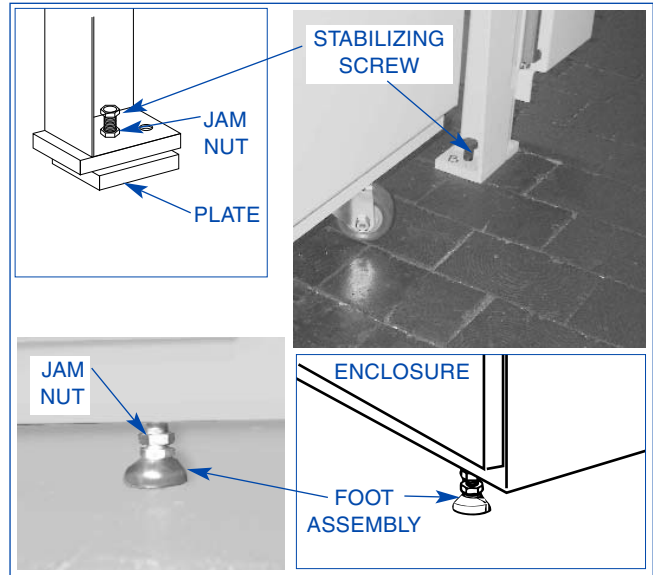

FIGURE 1-4, Stabilize Machine
8. Stabilize Machine by adjusting Stabilizing Screw in Machine Base (see Figure 1-4). Screw out two (2) Foot Assemblies on Electrical Control Enclosure Support Legs until they contact floor; then turn each Foot 1/4 turn further. Tighten Jam Nuts on Foot Assemblies and Stabilizing Screw.